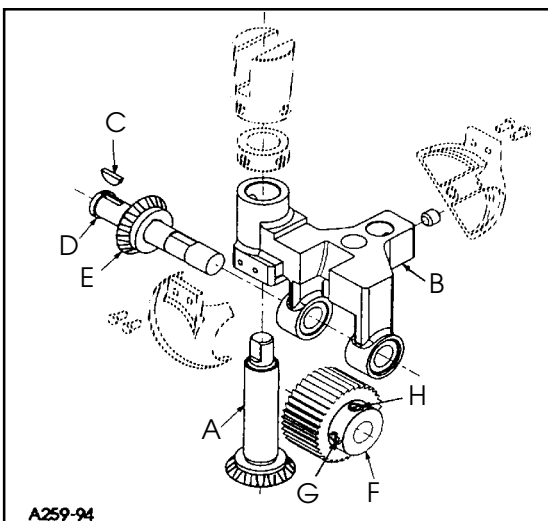

FIG. 16
Assemble driven gear (A, Fig.16) through feed roller frame (B). Place woodruff key (C) into slot of feed roller shaft (D). Slide driven gear (E) on to shaft (D), make sure key (C) goes into slot in gear (E). While holding feed roller frame (B) with steel roller (F) between the two frame lobes, slide feed roller shaft (D) and assembled components through frame. Make sure that shoulder of roller (F) is to the right. Align screw (G) (first in operating direction on roller) on the flat of shaft (E). At the same time thrust shoulder of shaft (D) against face of gear (E), make sure left edge of roller is against right (inside) face of left lobe. Secure screw (G) on flat of shaft (D) and tighten screw (H).